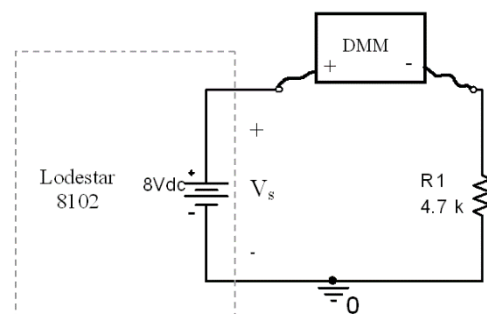

Figure 7: DMM in series to measure current
3. Measure the current through the resistor as shown in Figure 7. Remember that the multimeter must be in series with the resistor to measure current, since ammeters (current meters) have low input resistance. We connect the DMM in series so that the current passing through the